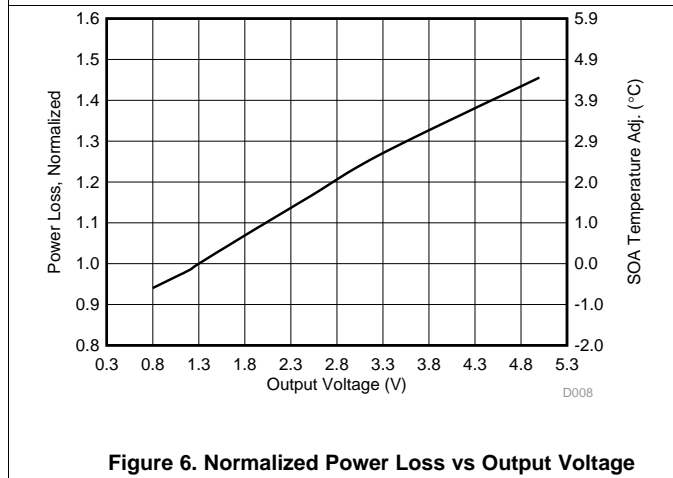

Figure 6. Normalized Power Loss vs Output Voltage
- Normalized power loss for output voltage ≈ 1.07 (Figure 6)
- SOA adjustment for output voltage ≈ 0.68°C (Figure 6)